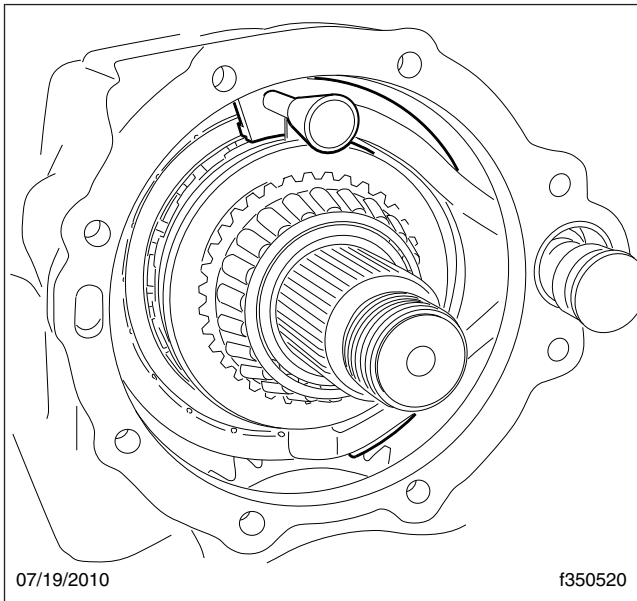

Fig. 9, The Half-Moon Device, Installed
26. The half-moon device (see Table 1) helps align the shift fork and shift shaft piston. To install it, slide it between the oil slinger and the shift fork. See Fig. 9.